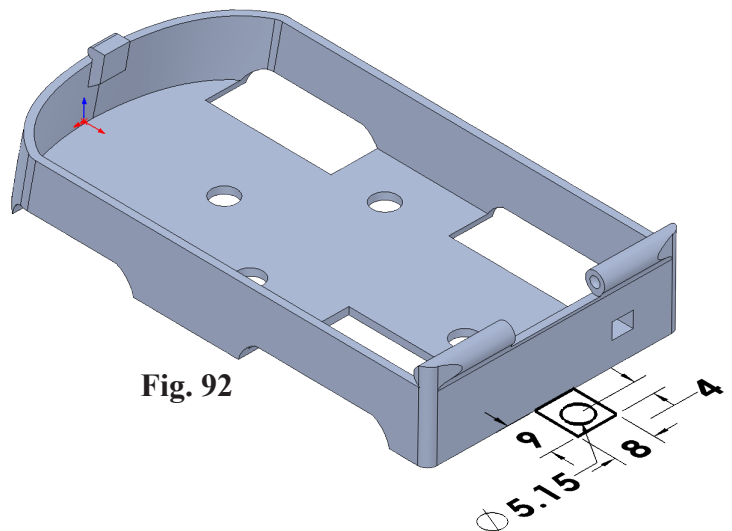

Fig. 92
Step 9. Click **Smart Dimension** (S) on the Sketch toolbar.
Step 10. Add dimensions, **Fig. 92**.